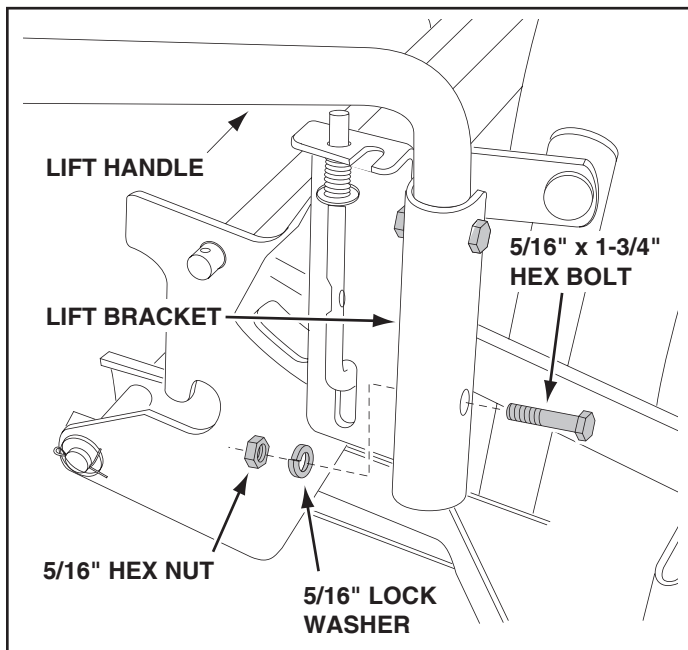

FIGURE 14 RIGHT SIDE VIEW
- Place the lift handle into the lift bracket on the right side of the snow thrower. Fasten the handle to the bracket using two 5/16" x 1-3/4" hex bolts, 5/16" lock washers and 5/16" hex nuts. See figure 14.